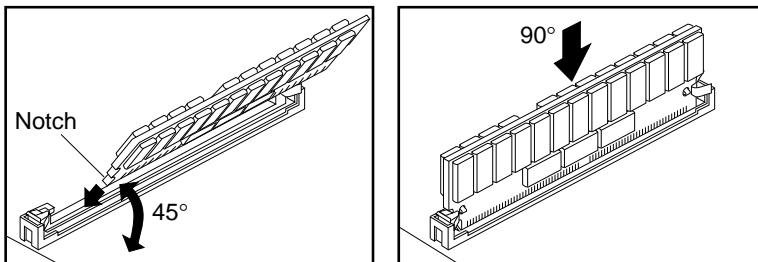

Fig. 9.14 Installing a SIMM
- c. Tilt the SIMM to be removed forward towards you to a 45° angle and slide it up and out of the bank (fig. 9.14).
- e. Align the new SIMM with the notched corner down and the SIMM tilted to the right at a 45° angle to the controller board over the appropriate bank (fig. 9.14). Then insert the SIMM into the bank's connector.
- f. Gently push the SIMM toward the left and up to a 90° angle (fig. 9.14) with the controller board until the two bank latches snap in place in front. You may have to hold the two latches out while pushing the SIMM into place, and then release them. If you do not have another SIMM to install, skip to step 10.